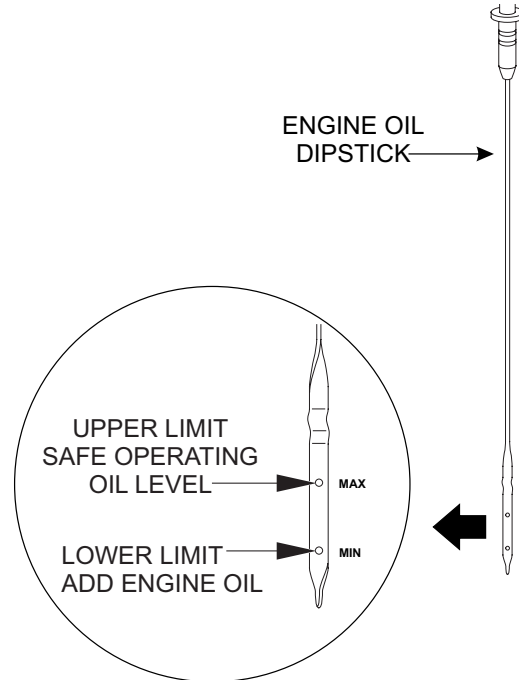

Figure 13. Engine Oil Dipstick
3. Re-Insert dipstick (Figure 13), then remove dipstick from its holder. Check the oil level shown on the dipstick.